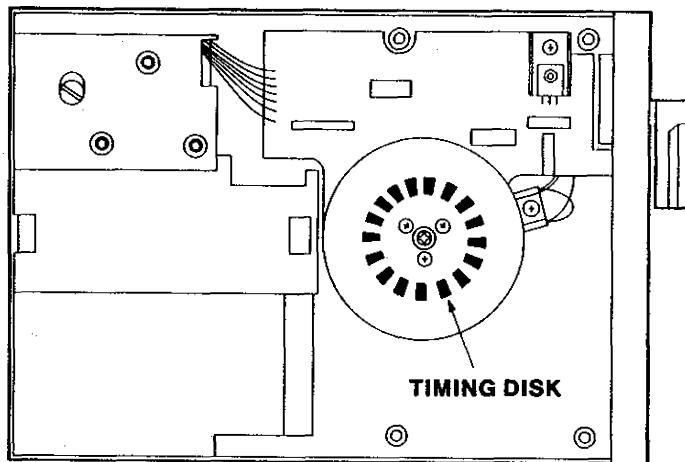

FIGURE 5-2
4. Observe the timing disk on the drive motor under ambient fluorescent lighting (Figure 5-2).